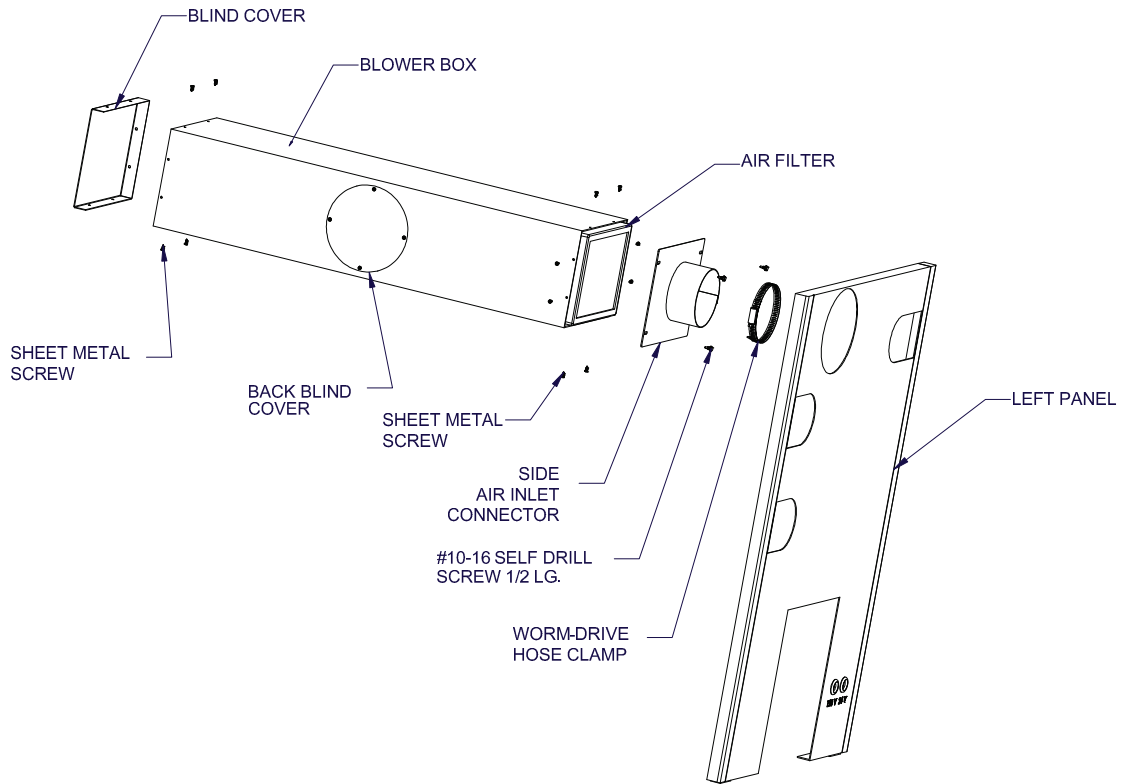

FIGURE 4
- Unused rear air inlet connection must be covered with the back blind cover (See Figure 4).